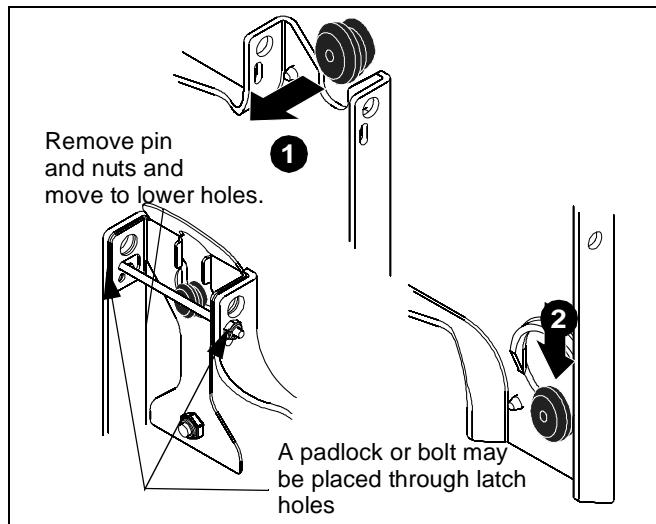

Figure 19
2. While supporting both sides of display, align four mounting buttons on display or interface bracket with four mounting holes in faceplate. (See figure 18) and (See figure 19)
3. Lower display into place listening for audible "click" to ensure recessed area of mounting buttons are properly seated in lower area of mounting holes and "click lock" mechanism has engaged. (See figure 18) and (See figure 19)
NOTE: Holes are provided in the faceplate for use with a padlock or similar locking device, if desired. In addition, the pin and nut may be removed from the upper holes and moved to the lower holes for use as a more permanent locking device. (See figure 19)